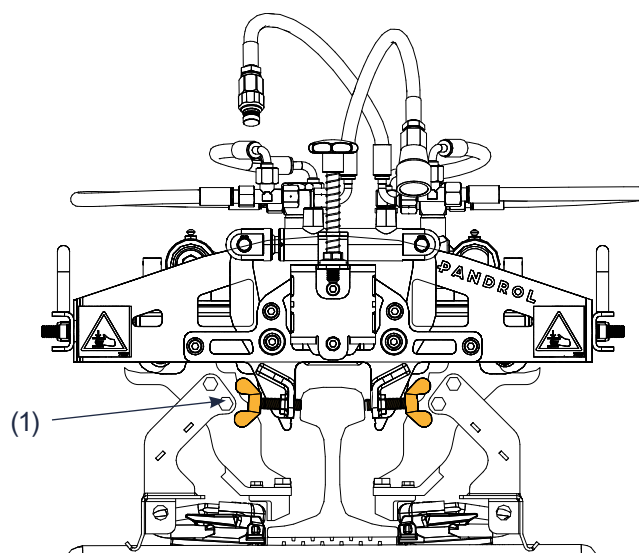

Fig 43.
Adjust the 4 screws (1), Fig 43 to enable good torsional stiffness during de-clipping.